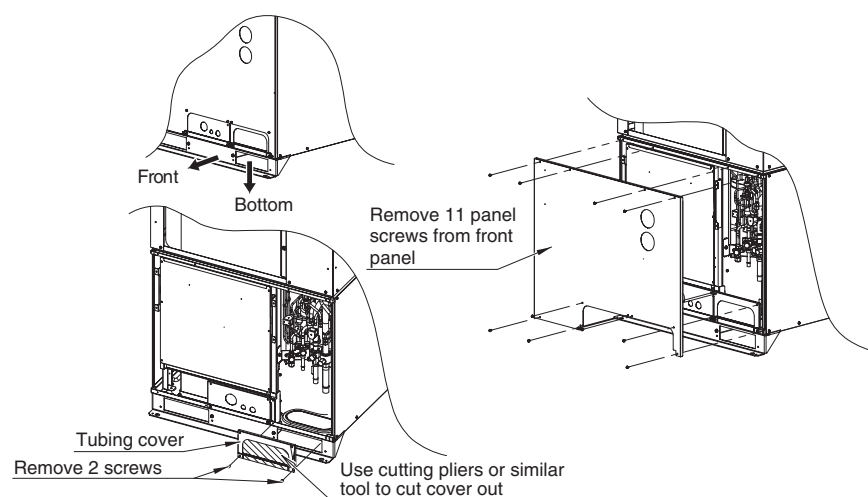

Fig. 3-5
- (1) If the tubing is routed out from the front, use cutting pliers or a similar tool to cut out the tubing outlet slit (part indicated by ) from the tubing cover. (Figs. 3-5 and 3-6)